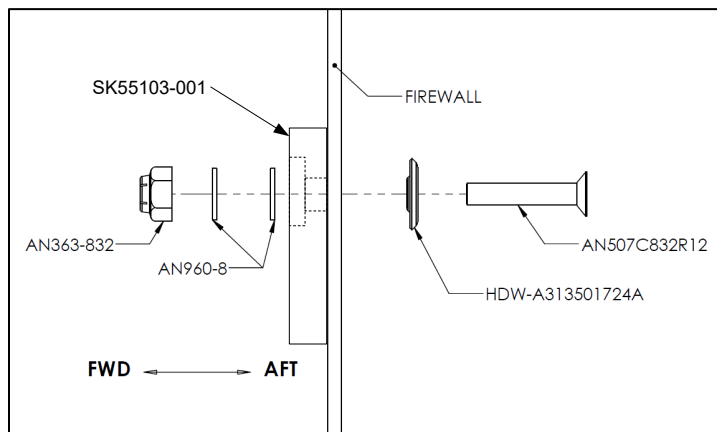

Figure 4 - Hardware Stack, Two Places
13. Install the fuel filter support, CubCrafters' Part Number SK55103-001, using the following hardware: 2X AN507C832R12 screws, 2X HDW-A313501724A washers, 4X AN960-8 washers and 2X AN363-832 nuts. Reference Figure 4 for hardware stack order. Torque 27-30 inch-pounds.